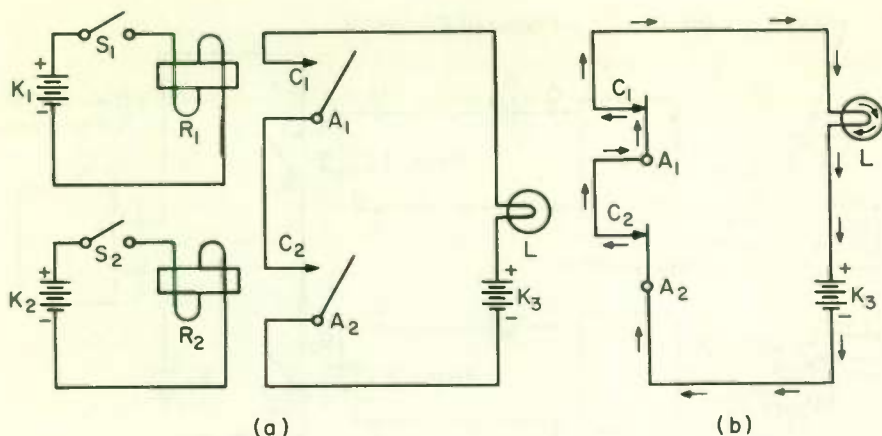
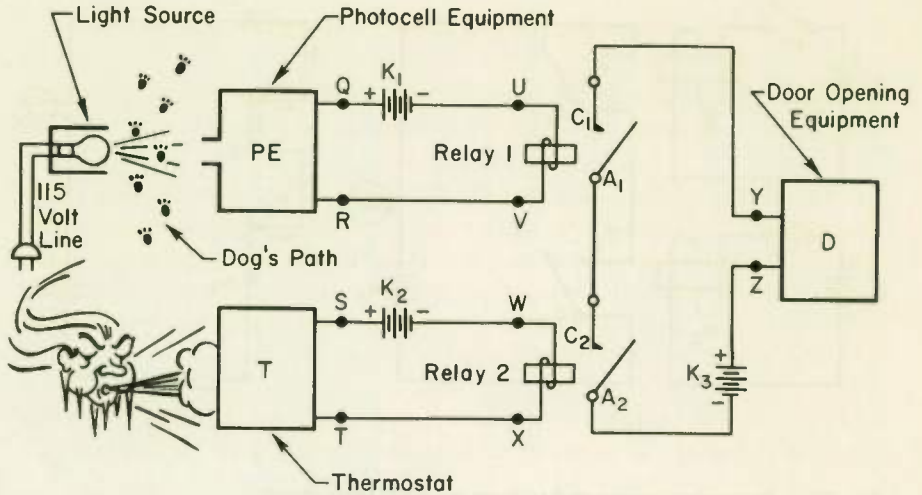

Fig. 22 Two relays connected to form an AND logic circuit.
Fig. 23 An AND circuit to let the dog in the house.
13 AND CIRCUIT WITH RELAYS . . . In Fig. 22(a) both relays must be energized and operate before lamp L will light. We write this in Boolean algebra as
This means that when both switches S_1 and S_2 are closed, the bulb will light. The electric circuit to the lamp is then as shown in Fig. 22(b). If either one of the relays is not energized, the lamp L will not light.
Figure 23 shows the circuit, and you will see that it is like the AND circuit of Fig. 22 except that the photocell (with its amplifier), marked *PE*, replaces switch *S*₁, and the thermostat, marked *T*, replaces switch *S*₂. Instead of a light bulb, the relay contacts turn on the motor that opens the door. It is necessary for both the photocell *PE* AND the thermostat *T* to “switch on” before the relay contacts will open the door. In computer language, $PE \times T = D$. In dog language, I’m on the beam, and I’m cold; lemme in.
1. What type of relays (number of poles, throws, and whether NC or NO) would you order to construct the circuit of Fig. 23?
2. The circuit of Fig. 23 is faulty, not opening the door at any time. You think the trouble may be in the door-opening equipment. You therefore want to see if current is getting to the door-opening equipment when it should. To do this you wait until the temperature is below 40° . You then have the dog stand in front of the photocell while you hold a test lamp between points _____ and _____.